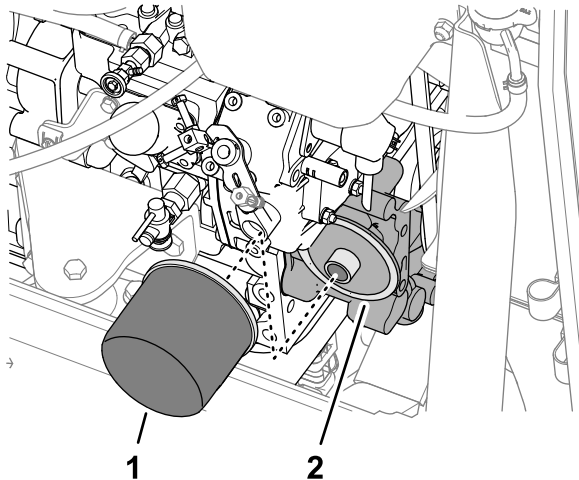

Figure 70
1. At the left side of the engine, rotate the oil filter counterclockwise to remove it (Figure 70).